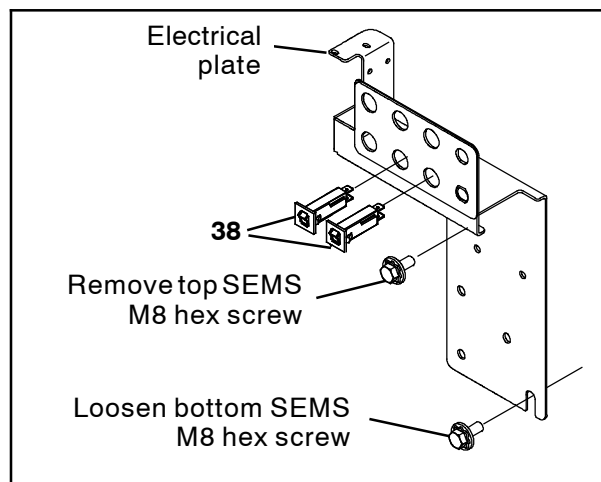
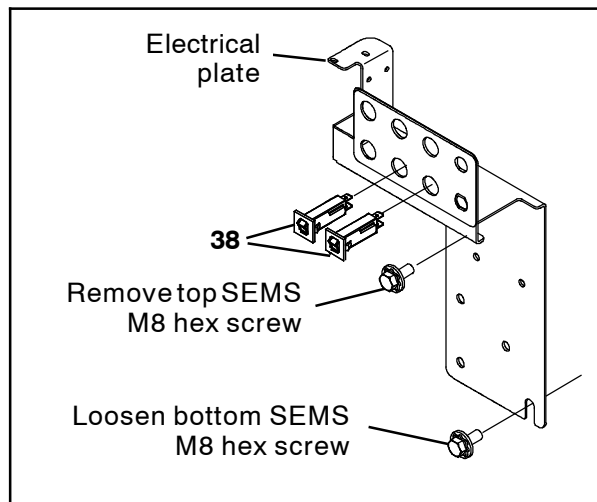
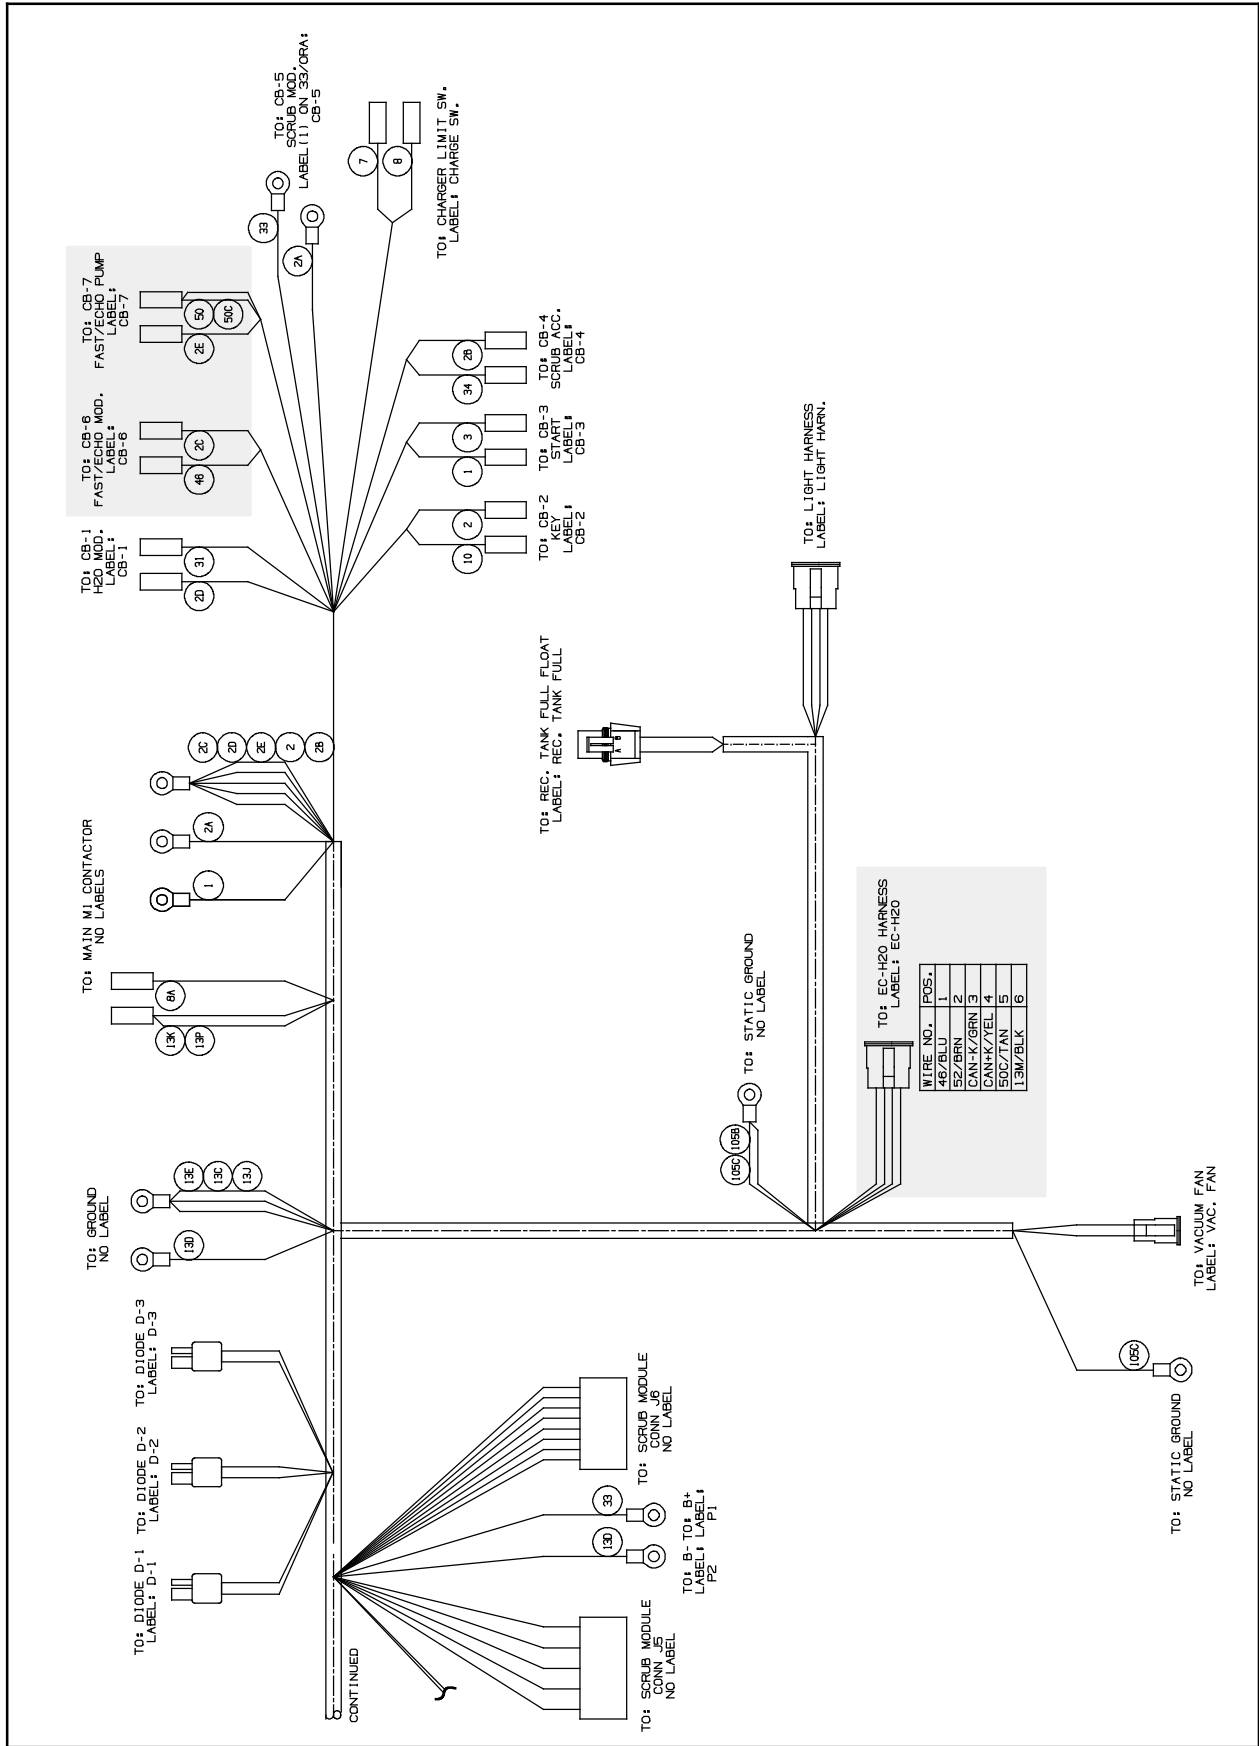

FIG. 8
FIG. 17
FIG. 20
30. Remove the top SEMS M8 hex screw securing the electrical panel to the recovery tank. Set the SEMS M8 hex screw aside. (Fig. 8)
31. Loosen the bottom SEMS M8 hex screw securing the electrical panel to the recovery tank. (Fig. 8)
32. Carefully pull the electrical panel far enough away from the recovery tank to access the portion of the main wire harness located behind the electrical plate. Do not break any wire cable connections when moving the electrical panel. (Fig. 8)
33. Insert a 2.5A circuit breaker (38) into electrical panel circuit breaker locations CB6 and CB7. (Fig. 8)
34. Connect the main wire harness to both 2.5A circuit breakers. (Fig. 8 / Fig. 20 / Fig. 21)
35. Reinstall / tighten the EMS M8 hex screws securing the electrical panel to the recovery tank. (Fig. 8)
2. Connect the main wire harness to the ec-H2O assembly. (Fig. 17 / Fig. 20 / Fig. 21)
39. Remove the top SEMS M8 hex screw securing the electrical panel to the recovery tank. Set the SEMS M8 hex screw aside. (Fig. 17)
40. Loosen the bottom SEMS M8 hex screw securing the electrical panel to the recovery tank. (Fig. 8)
41. Carefully pull the electrical panel far enough away from the recovery tank to access the portion of the main wire harness located behind the electrical plate. Do not break any wire cable connections when moving the electrical panel. (Fig. 17)
42. Insert a 2.5A circuit breaker (38) into electrical panel circuit breaker locations CB6 and CB7. (Fig. 17)
43. Connect the main wire harness to both 2.5A circuit breakers. (Fig. 17 / Fig. 20 / Fig. 21)
44. Reinstall / tighten the EMS M8 hex screws securing the electrical panel to the recovery tank. (Fig. 17)